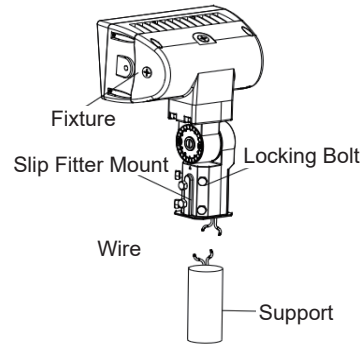

figure 1.2
Step 3 Loosen the screws. Adjust the fixture angle as per actual demands and tighten the screws when complete. Attach the bracket to the pole with screws, then connect the wires per proper wiring requirements (figure 1.2).